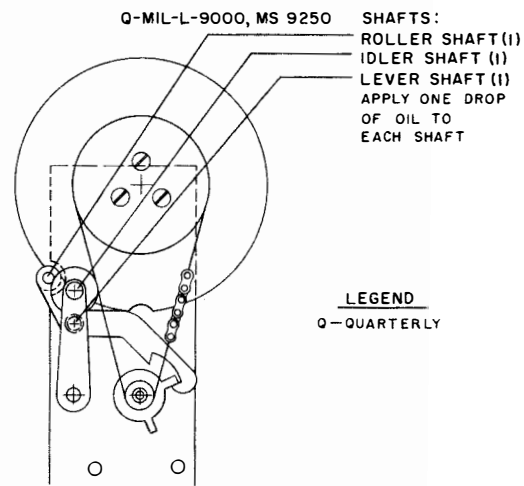

Figure 6-15. RFA, PA Dial Assembly, Lubrication
(b) PA DIAL ASSEMBLY.—The PA dial assembly is shown in figure 6-15 as a line drawing which calls out the necessary lubrication points.
- (c) Figure 6-15